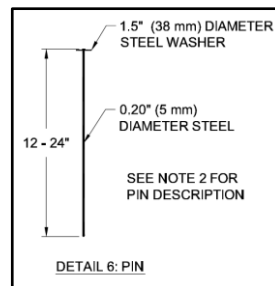

Figure 4: Securing Pin
- Secure PYRAMAT with pins in the COS trench. Pins should be made of steel with a 0.20 in (5 mm) minimum diameter, having a 1.5 in (38mm) diameter washer at the head, and a length between 12 and 24 in (300-600 mm) with sufficient ground penetration to resist pullout (Figure 4). Longer pins may be required for looser soils. Heavier metal stakes may be required in rocky soils. Suggested placement of pins for the COS trench is along the bottom of the trench with pins on 12 in (300 mm) centers. Pins should also be installed on panel edge overlaps in the COS trench.